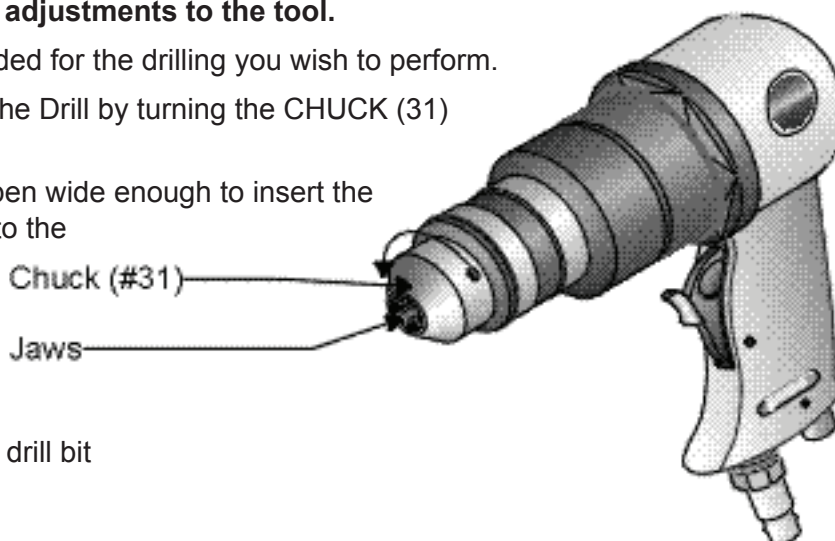

Figure 3 — Opening the Drill Chuck
Step 2: Open up the Jaws of the Drill by turning the CHUCK (31) as shown in Figure 3.